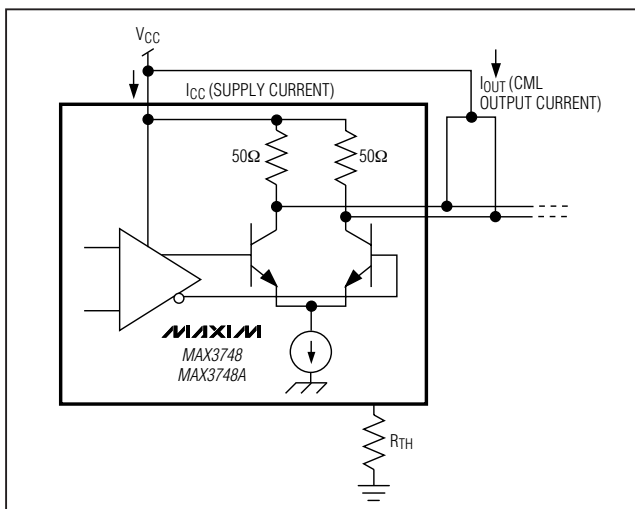

图1. 电源电流测量
**Note 6:** The supply current measurement excludes the CML output currents by connecting the CML outputs to a separate  $V_{CC}$  (see Figure 1).